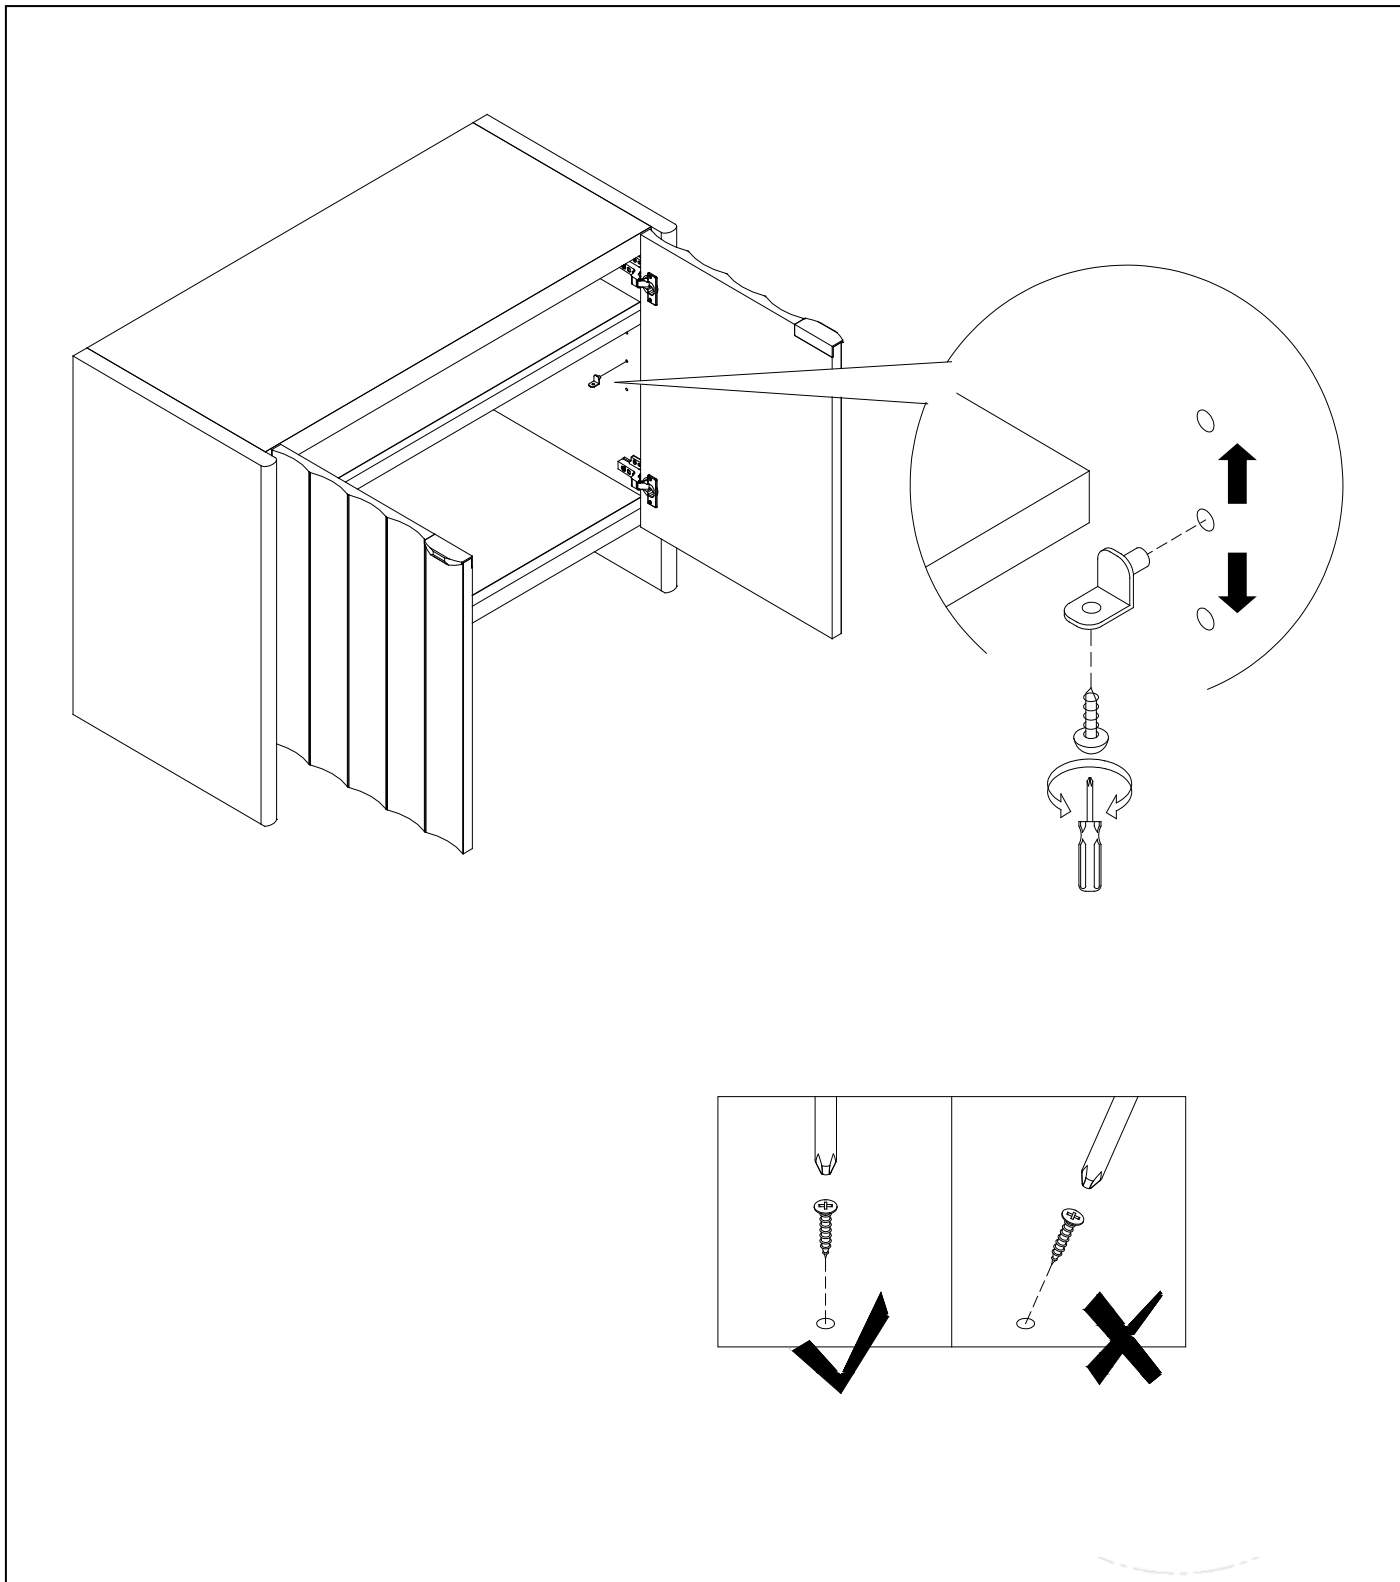

Figure 4
Step 4: The Shelf Panel can be adjusted up and down in its own location as shown below. Consumer need only to unscrew the screw, adjust the Shelf Support Pin either up and down and place the Shelf Panel back onto the Shelf Panel and install the screw again. Illustration as shown below. See Figure 4